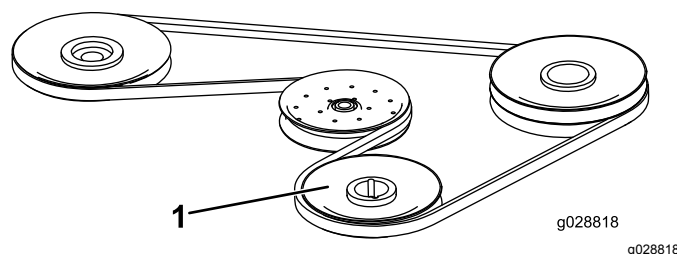

Figure 3
4. Remove the belt that routes on the right side of the mower deck and install the kit belt in the same location (Figure 3).